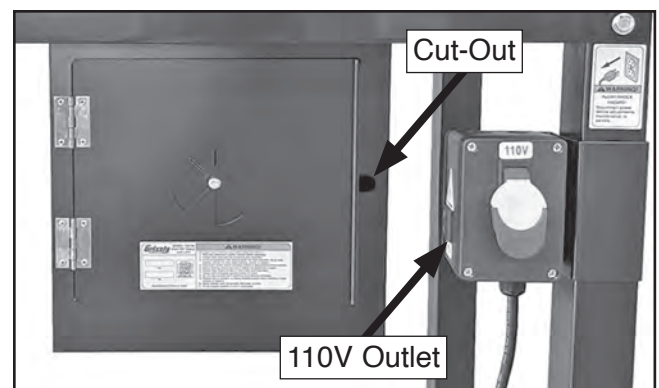

Figure 39. Location of ON/OFF switch and 110V outlet.
2. Open door on dust box and feed router power cord through cut-out on right-hand side of door opening (see **Figure 39**).
4. Plug router power cord into 110V outlet (see **Figure 39**) on router table electrical box.